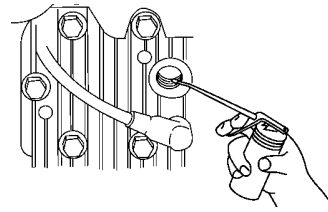

Figure 42
1. Remove the spark plug. Using an oil can, squirt about one tablespoon of oil through the spark plug hole (Fig. 42).